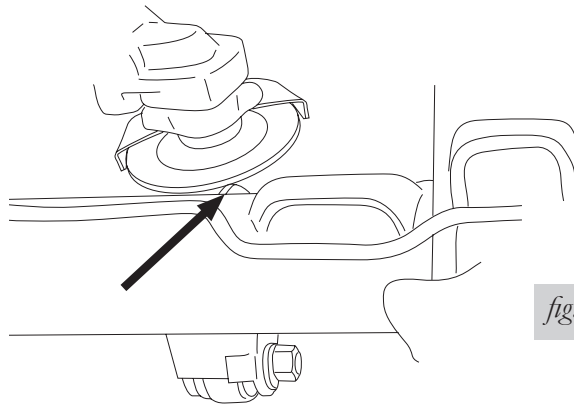

fig. 7
4. Due to manufacturing tolerances, the shock mounting bracket may stop the lower bracket from sitting completely flat on the axle housing/jounce bumper pad. This may occur on only one side of the vehicle. In such instances, it will be necessary to use a grinder to trim the shock bracket until it is flat with the top of the axle housing (Fig. 7).